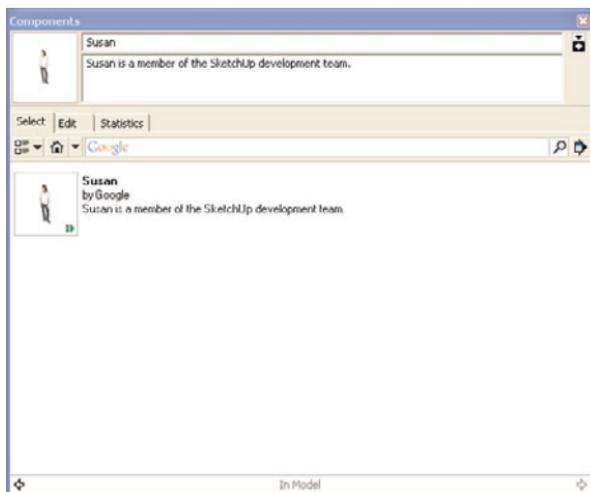

FIGURE 6.13 The current component in the model.
4. To see the components you have in the current model, click the down arrow next to the house button, and select the **In Model** item. This will display the page you see in Figure 6.13.